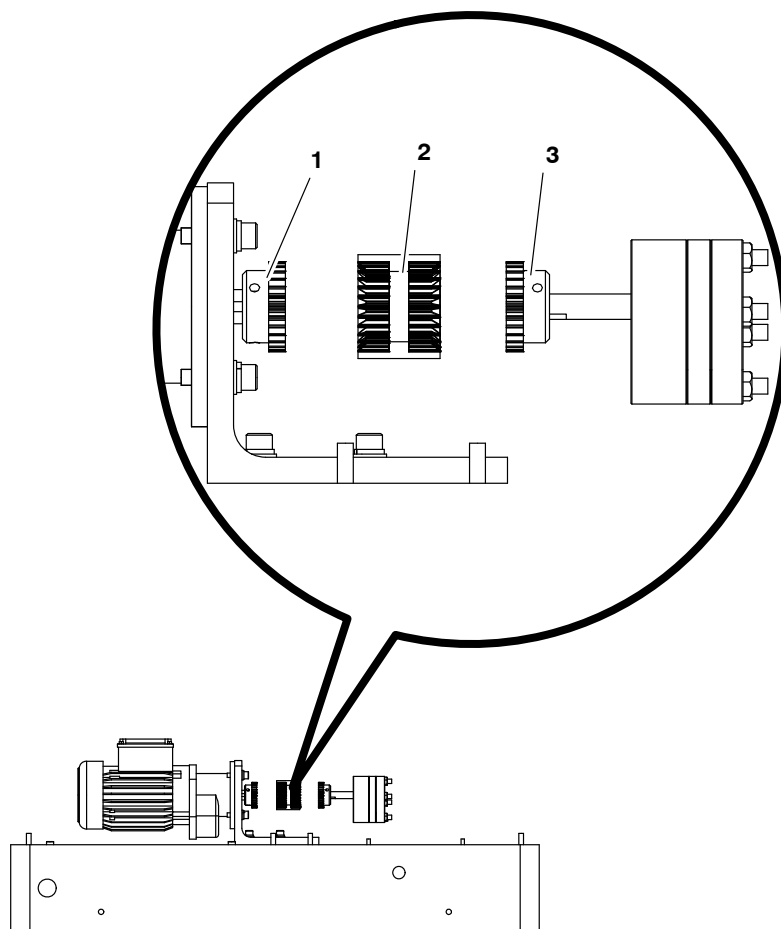

Figure 5-2 Coupling assembly components
4. See Figure 5-2. Loosen the screws that secure the motor to the base of the melter and then slide the motor back.
5. Slide the coupling sleeve (2) off of the coupling hubs (1 and 3), loosen the hub set screws, and remove the hubs.